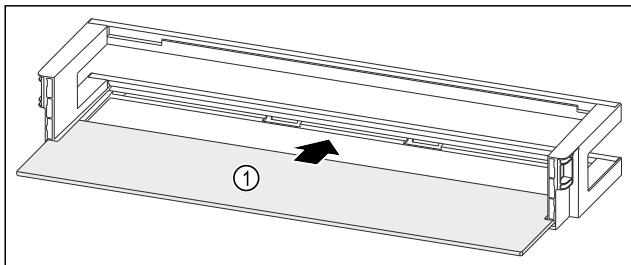

Fig. 174 Door rack with shelf
- ▶ Push the shelf Fig. 174 (1) into the side recesses.